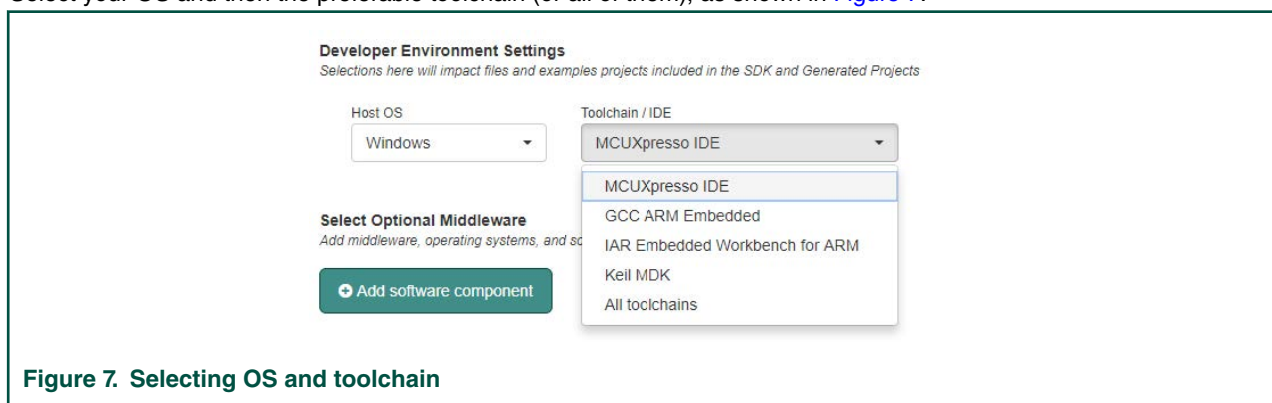

Figure 7. Selecting OS and toolchain
- Select your OS and then the preferable toolchain (or all of them), as shown in Figure 7.